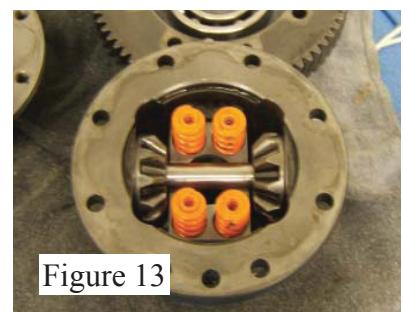

Figure 13
- Place one of the TCS case halves (friction surface down) on top of the bottom side gear and between the spider gears. Then place the four large springs into the spring pockets on the back face of the TCS. Insert the four small springs into the inner diameter of the large springs and place them into the 4 spring pockets. See figure 13.